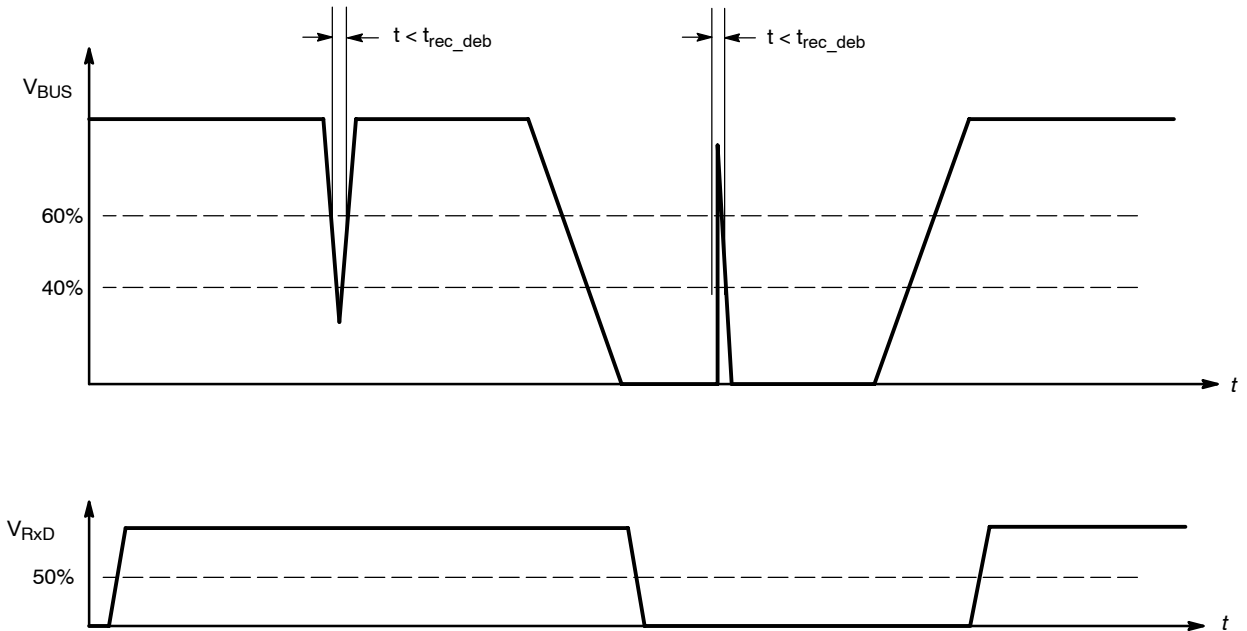
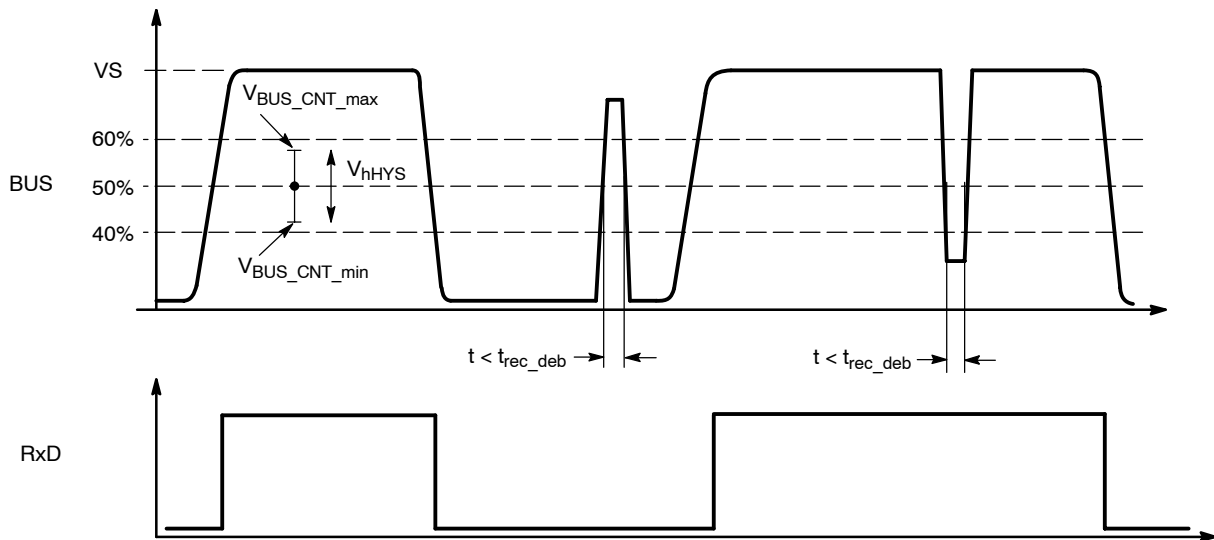

Figure 3. Receiver Debouncing Filter
Figure 6. Receive Impulse Diagram
14. See Figure 3 – Receiver Debouncing.
The signal on the BUS pin will be transferred continuously to the RxD pin. Short spikes on the bus signal are filtered with internal circuitry (Figure 3 and Figure 6).